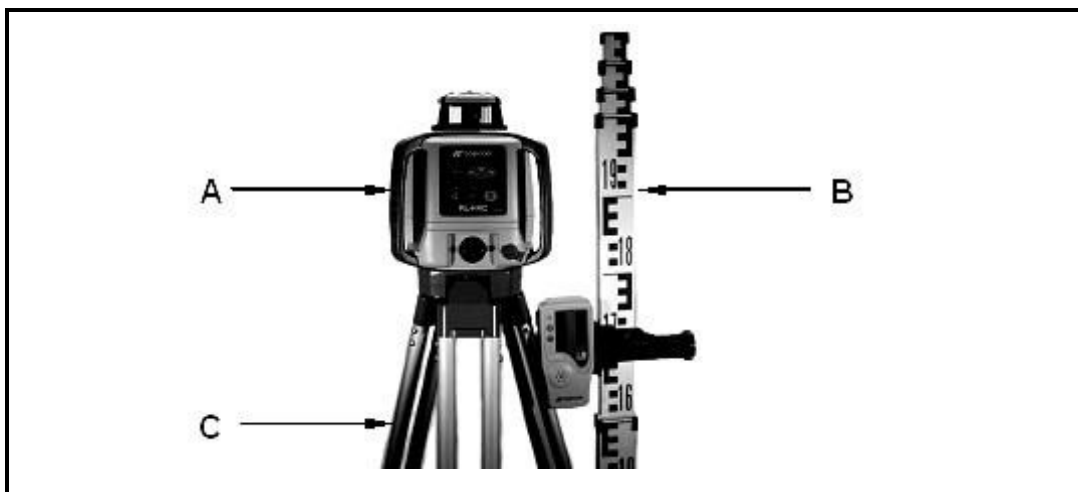

FIGURE 2.2
- 2.2 FIGURE 2.2 below shows a surveying tool used on a construction site. Study the figure and answer the following questions.